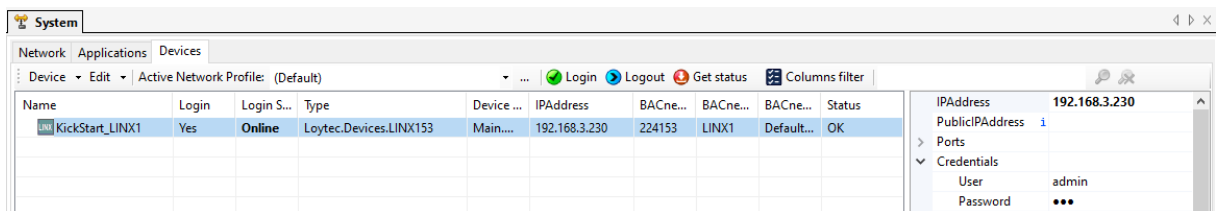

Figure 53: Enter IP address and credentials for the device resource.
22. Edit the IP address, login credentials for the device as shown in Figure 53. Then click **Save** in the toolbar.